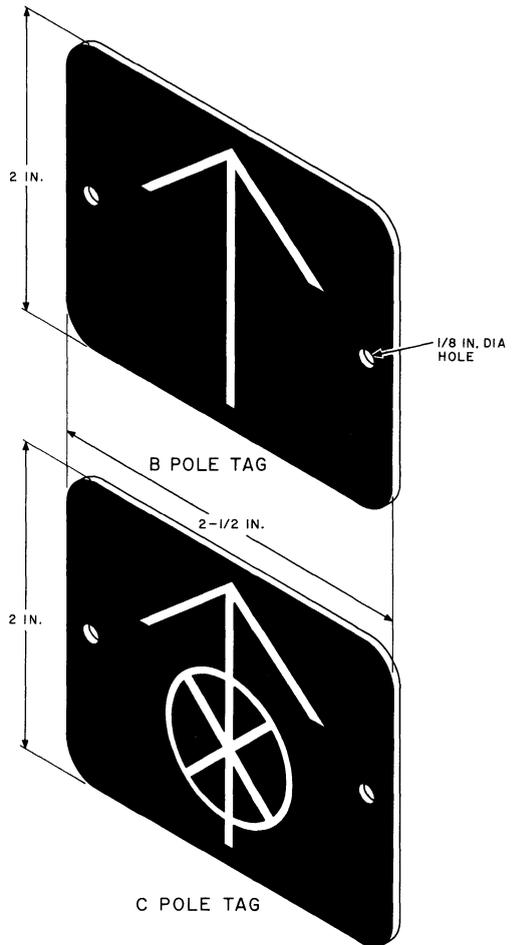

Fig. 1—B and C Pole Tags
2.26 Poles found by the previously described tests to be unsafe for climbing should be marked immediately with a B or C Pole Tag. (Fig. 1). The unsafe condition should be reported promptly to your supervisor.